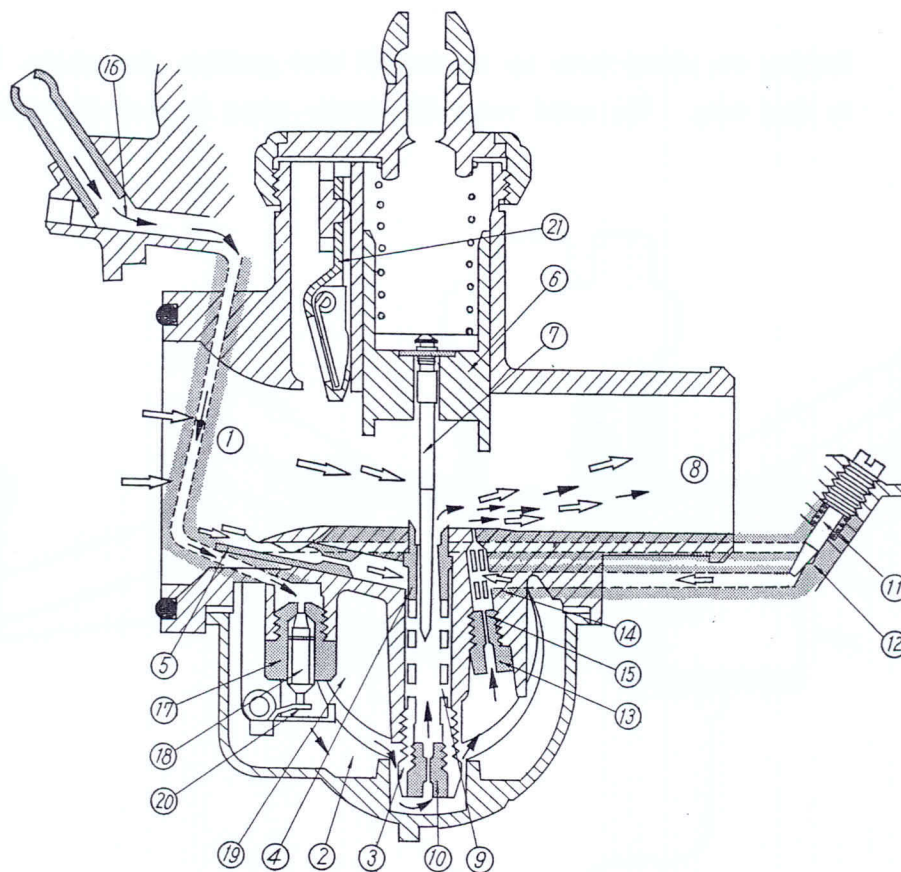

Fig. 3-24.
#### (1) Main system (Fig. 3-24).
#### (2) Slow-system (Pilot system) (Fig. 3-24).
#### (3) Float chamber (Fig. 3-24).
### (1) Main jet (Fig. 3-24 ⑩)
(2) Air jet (Fig. 3-24 ⑤)
(3) Needle jet (Fig. 3-24 ④)
(4) Jet needle (Fig. 3-24 ⑦)
(5) Throttle valve (Fig. 3-24 ⑥)
(6) Slow jet (Fig. 3-24 ⑬)